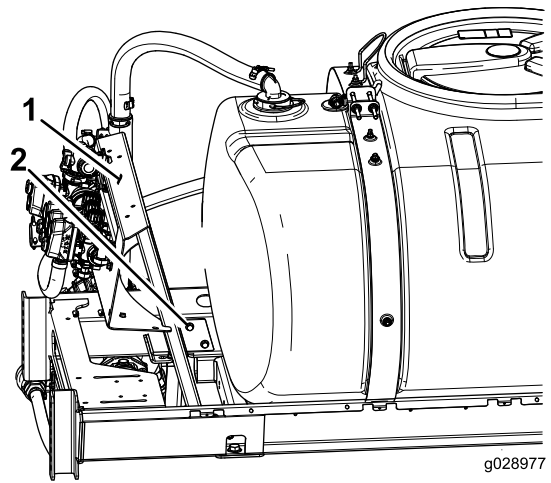

Figure 6
1. Loosen the bolts that secure the valve-mounting rail to the frame (Figure 6).